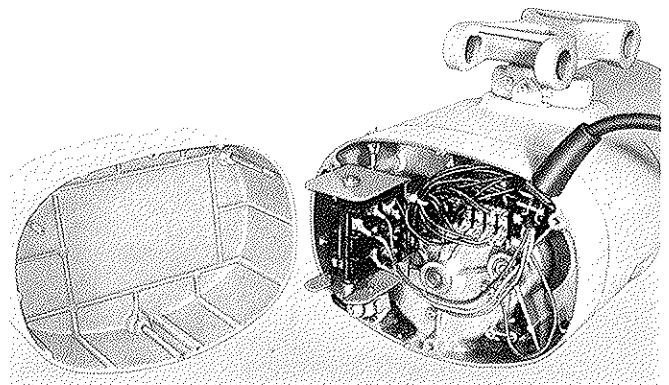

Figure 7-4. View of Pull Cord Model Hoist with Electrical Compartment Cover Removed
(1) Disconnect hoist from power source. Remove three cover retaining screws and lift off cover (figures 7-4 and 7-5). Cover screws have retaining rings which hold them in cover.